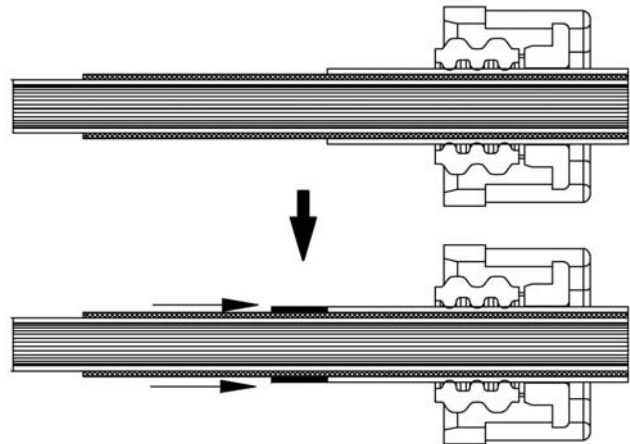

Figure 5
4. Slide the inner ferrule 1587583-[ ] over the braided cable shield until it contacts the outer jacket as shown in Figure 5.